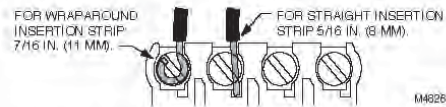

Fig. 7. Correct wiring technique.
1. Loosen the terminal screws on the wallplate and connect the system wires. See Fig. 7.
- Engage tabs at the top of the thermostat and wallplate. See Fig. 7.